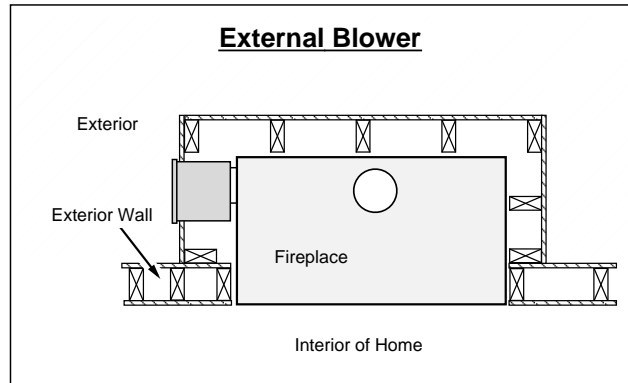

Figure 12
- The blower must be located to draw air from the exterior of the home, producing positive pressure inside the home and providing outside air for the combustion chamber (see Figure 12).